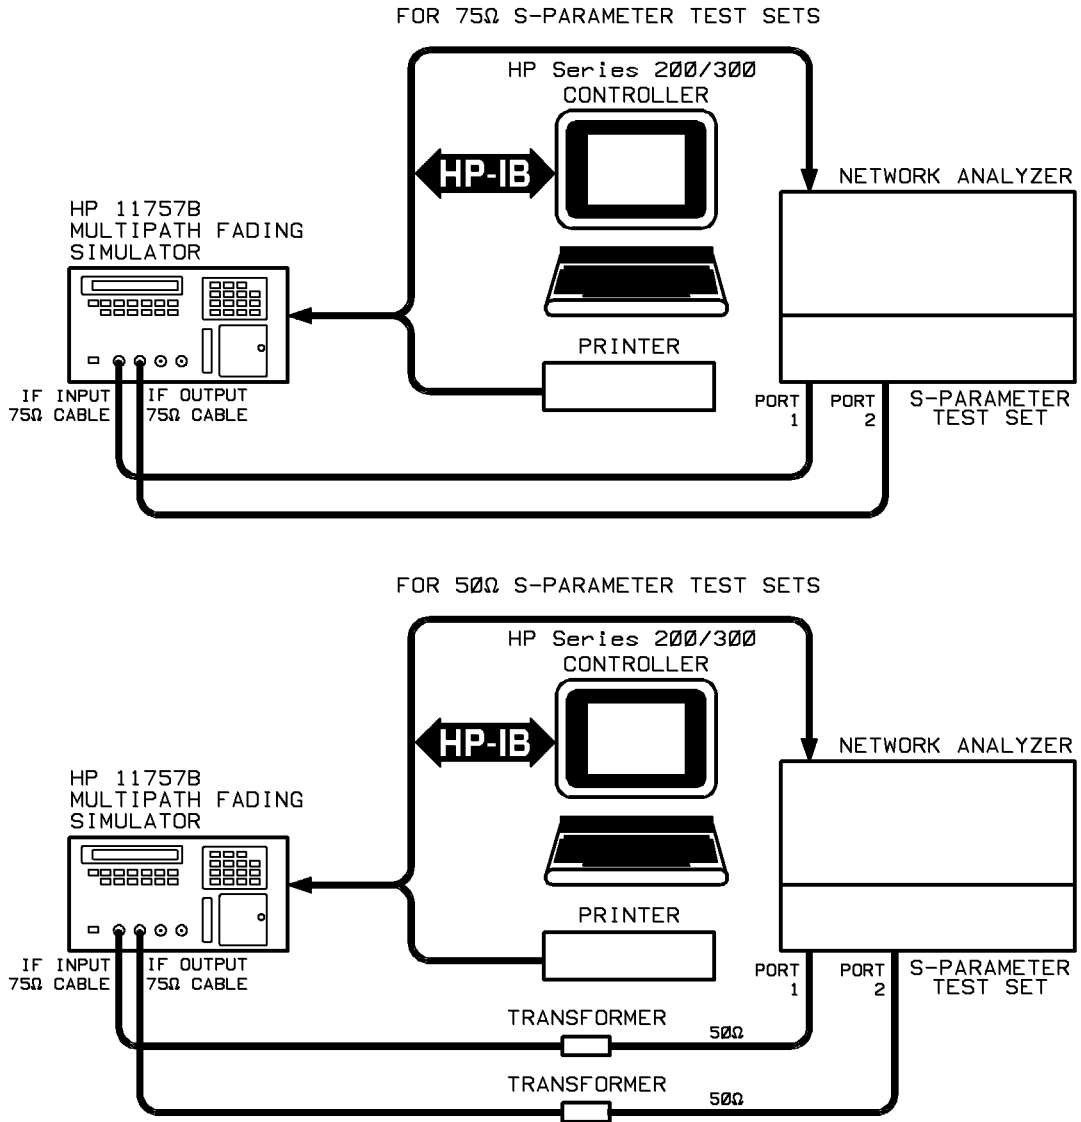

Figure 1-8. Automated Performance Test Setup
1. Connect the equipment as shown in figure 1-8.
7. When calibration is finished, reconnect the equipment as shown in Figure 1-8.
7. If any status is “Failed” highlight ADJUST 5 COMPLETE AUTOMATIC ADJUSTMENTS (1, 2, 3, 4) and press **SELECT ITEM**. Leave the equipment set up as shown in figure 1-8..